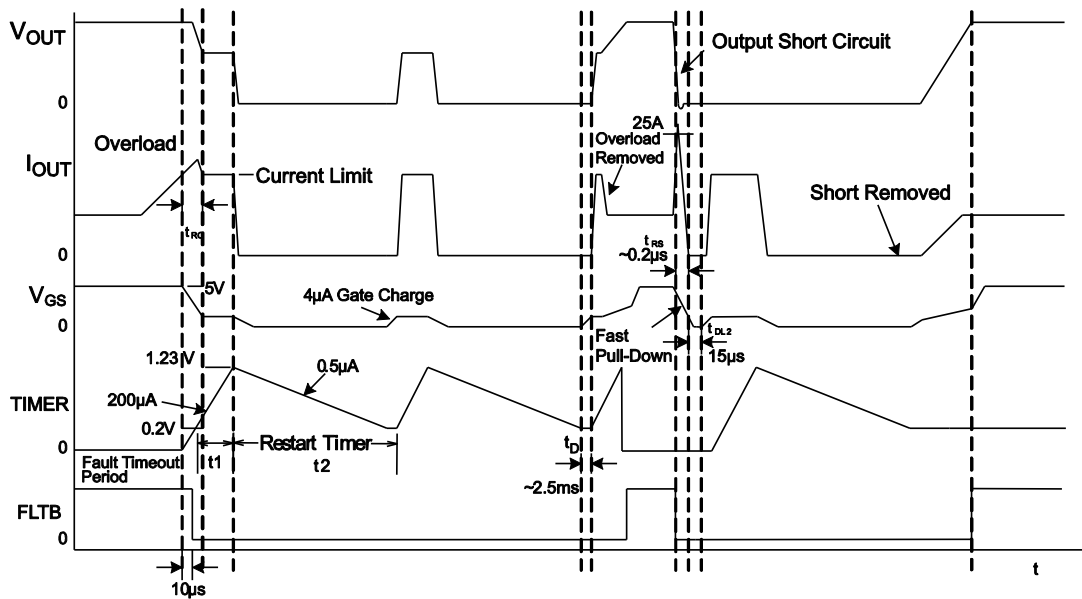

Figure 3: Over-Current Protection (Auto-Retry Mode, AUTO = High)
Floating the AUTO pin or pulling it above 2.5V causes the device to operate in hiccup mode (see Figure 3). At the end of the fault timeout period, the MOSFET turns off and a low-current (0.5μA) sink discharges the external capacitor (CT).